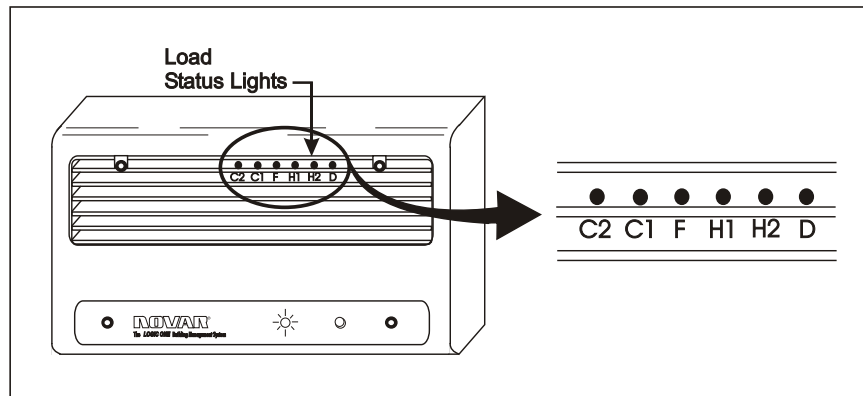

Figure 3. ETM's load status lights
- ETM load status lights visible behind the ETM’s front grill (see Figure 3)
The load status lights located behind the grill on the front of the module (Figure 3) indicate if the ETM is currently calling for the cooling loads (C2, C1), fan, heating loads (H1, H2), or damper.